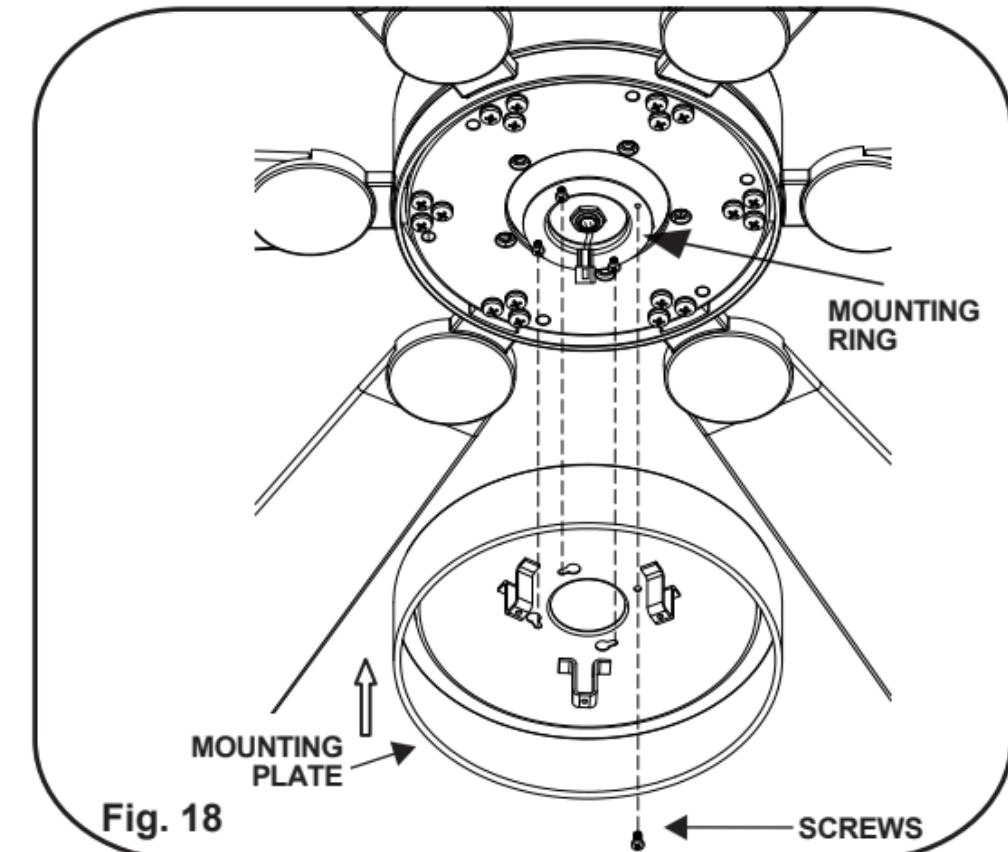

Fig. 18
Step 2. Place the key holes from the mounting plate over the 3 screws previously loosened from the mounting ring, turn mounting plate until it locks in place at the narrow section of the key holes. Secure by tightening the 3 screws previously loosened and the one previously removed. (Fig. 18)